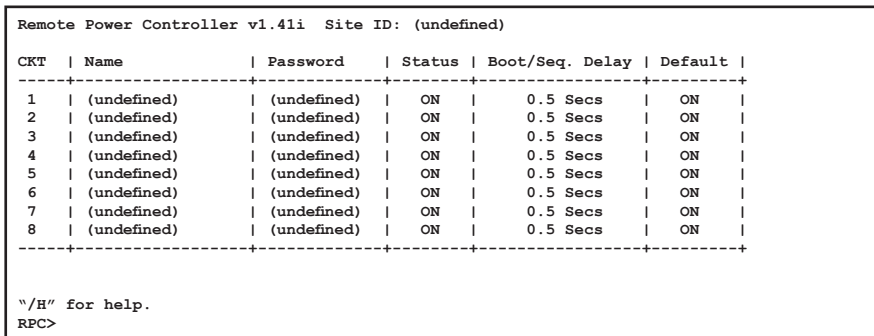

Figure 3.3 : Circuit Status Screen - Text Interface
- i. **Via Telnet:** Telnet to the RPC's default IP address (192.168.168.168). The Circuit Status Screen (Figure 3.3) should be displayed.
- ii. **Via Local PC:** Start your communications program and then press **[Enter]**. The Circuit Status Screen should be displayed as shown in Figure 3.3. The default communications parameters for the Console Port are 9600 bps, No Parity, 8 data bits, One stop bit.